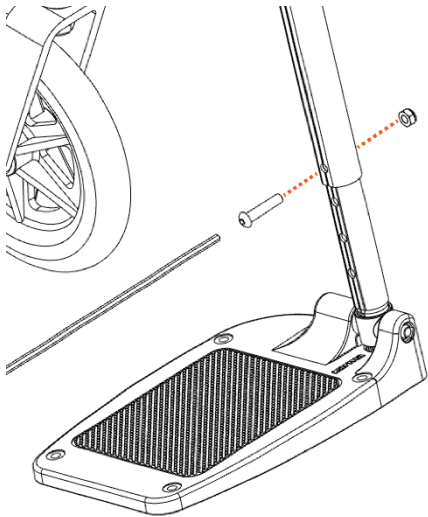

Figure 4.19
2. Adjust the footplate to the desired height, re-insert the bolt and make sure the footplate is firm. Then, tighten the nut as a locknut from outside. (See Figure 4.19.)